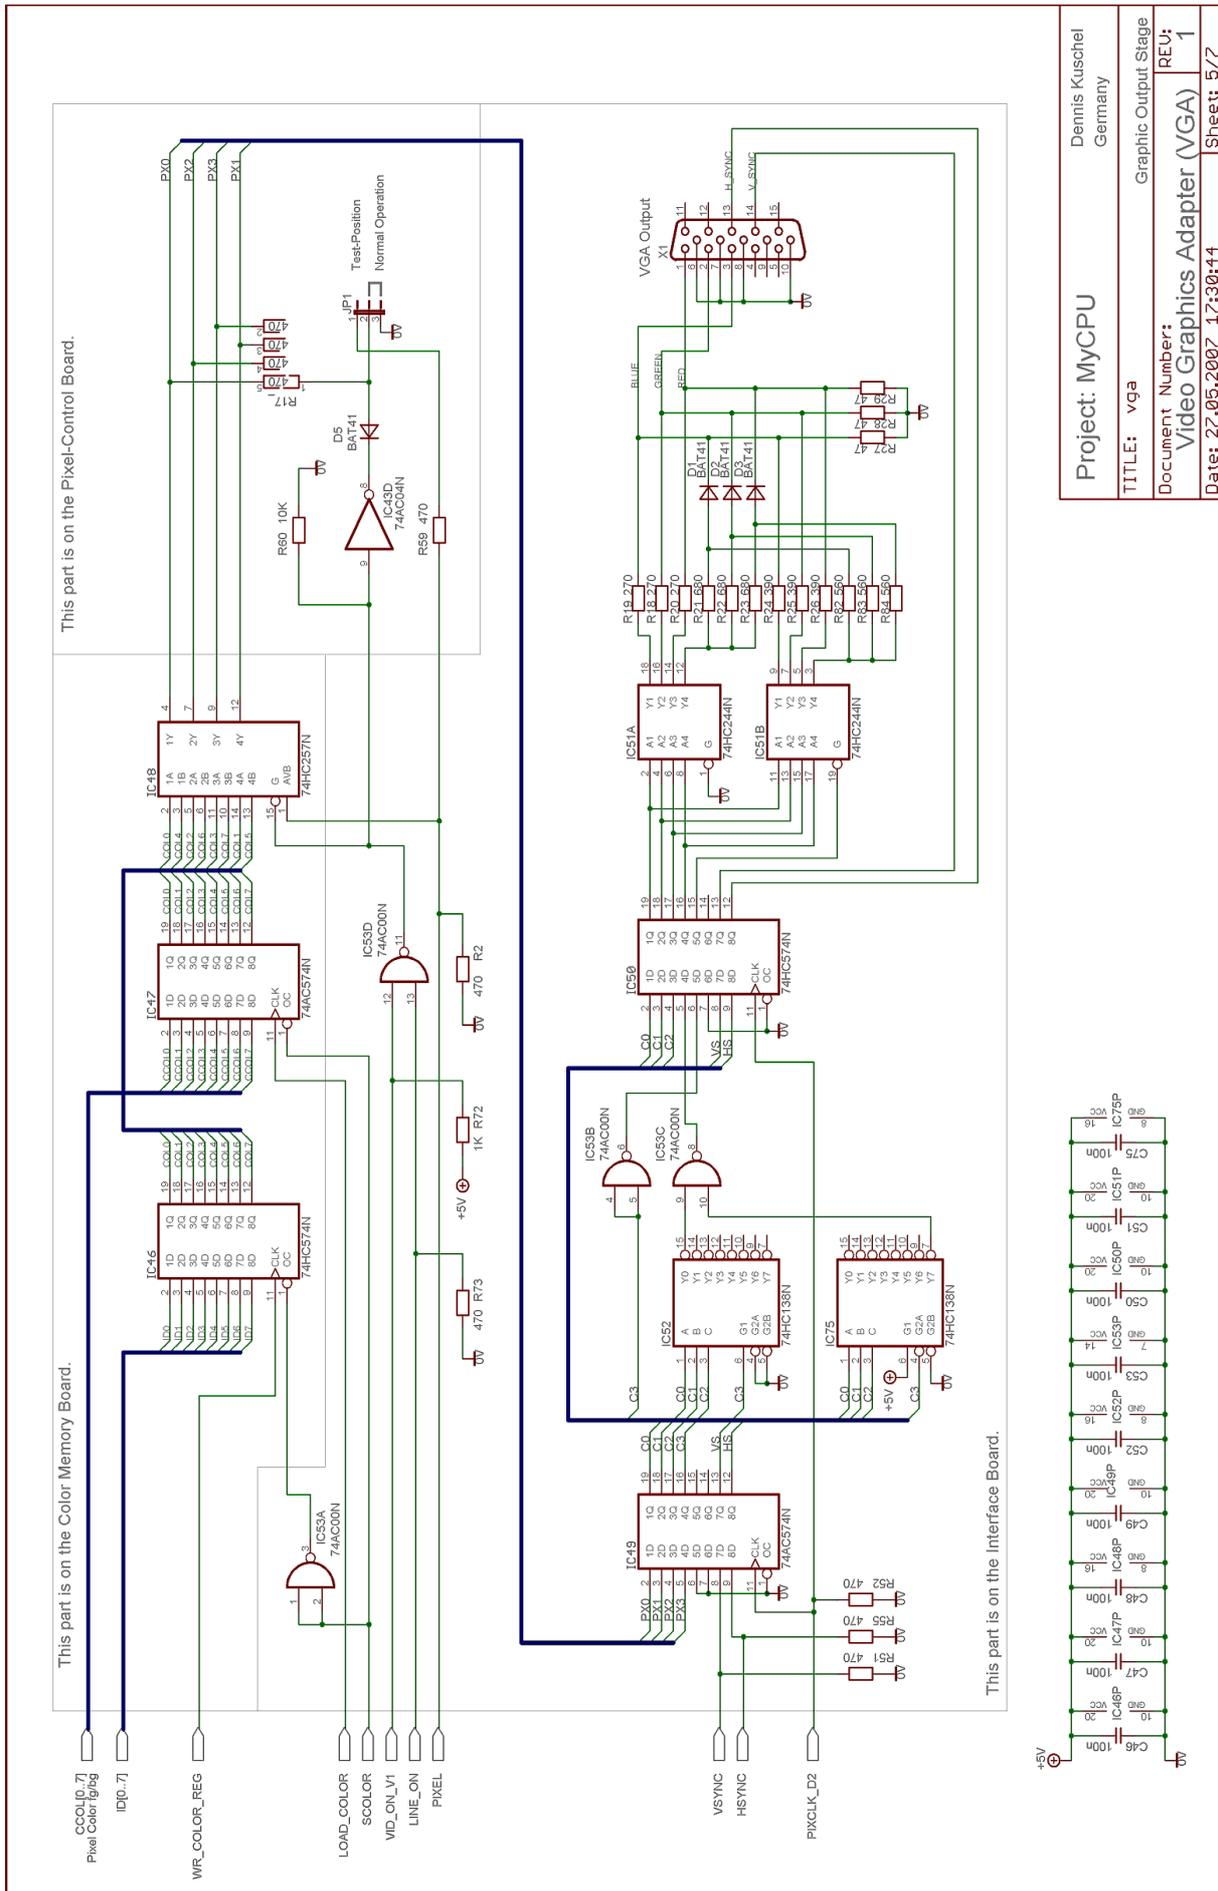

Fig. 37: Graphic Output Stage
- Fig. 37 on Page 43: Graphic Output Stage